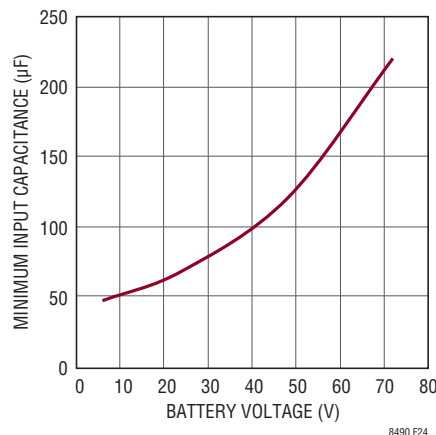

Figure 24. Minimum Input Capacitor Required for Low Power Mode
**MINIMUM INPUT CAPACITANCE FOR LOW POWER MODE:** A minimum amount of energy must be transferred from the input capacitor to the battery during each charge transfer cycle. Otherwise the battery may be drained instead of being charged. Figure 24 shows the minimum input capacitance required when the charger is operating near the 10V minimum input voltage. As the panel voltage rises, due to increased illumination, more energy is stored in the input capacitor and a corresponding increase of energy is delivered to the battery. Carefully check the solar panel voltage for good stability and minimal ripple when operating with low input capacitance.